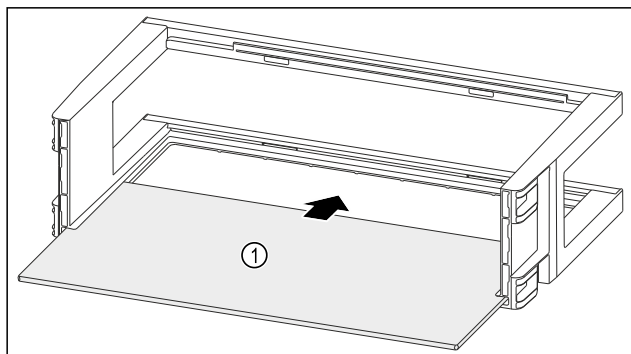

Fig. 142
- ▶ Push the shelf *Fig. 142 (1)* into the side recesses.